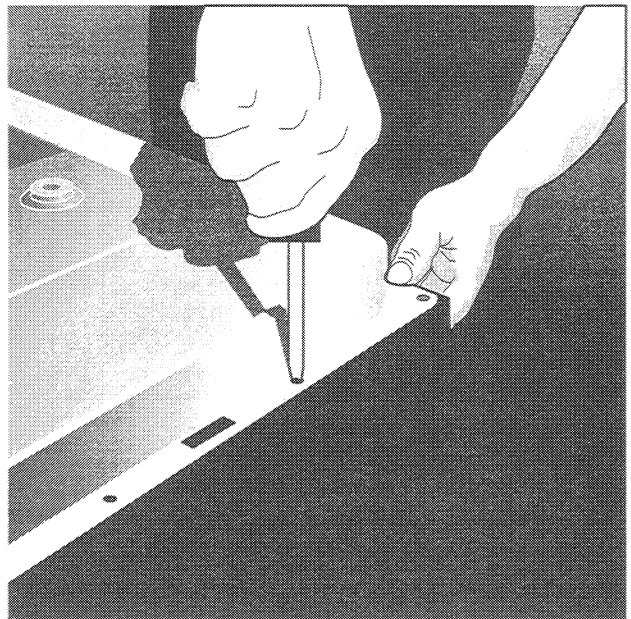

Figure 1
3. Remove six screws securing the control panel to the inner door panel. (See Figure 1.)
2. Remove screws securing the control panel to the inner door panel (See Figure 1.)
2. Remove screws securing control panel to inner door panel. (See Figure 1.)
2. Remove screws securing the control panel to the inner door panel. (See Figure 1.)